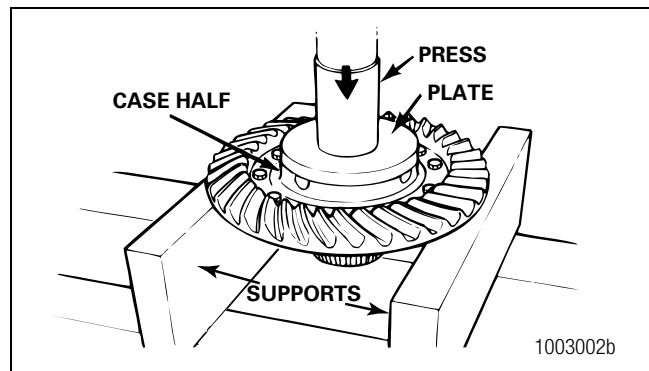

Figure 3.20
7. Use a press to separate the case half and ring gear. Support the assembly under the ring gear with metal or wood blocks. Press the case half through the gear. Figure 3.20.